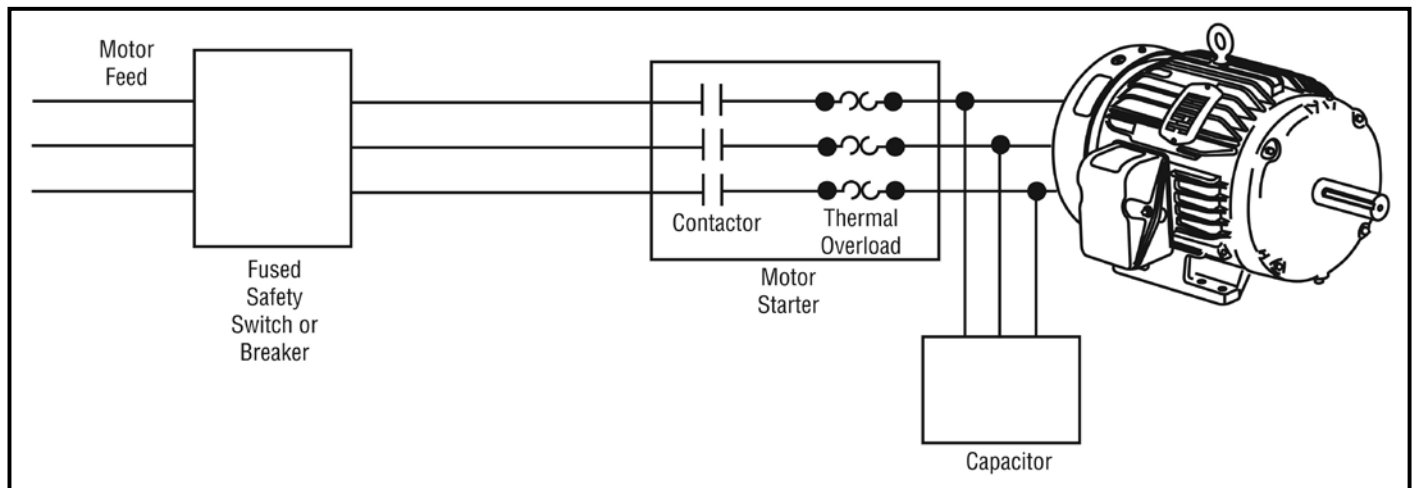

Figure 2 For single-motor correction, capacitors are connected between motor starter and motor at the motor terminals.
**Current correction.** In many cases when a single motor is being corrected, the capacitors are connected between the motor starter and the motor at the motor terminals (Fig. 2). With this being the case, the effect of the correction is to reduce the current flowing through the starter and overload relay. Since the overload heaters are selected (or adjusted) on the basis of the motor at full load current, this means that the overloads will not correctly protect the motor unless the ampacity is reduced to reflect the reduced current now flowing as a result of the power factor improvement.
(See Figure 2 for Convenient Motor and Energy Formulas.) **PTE**